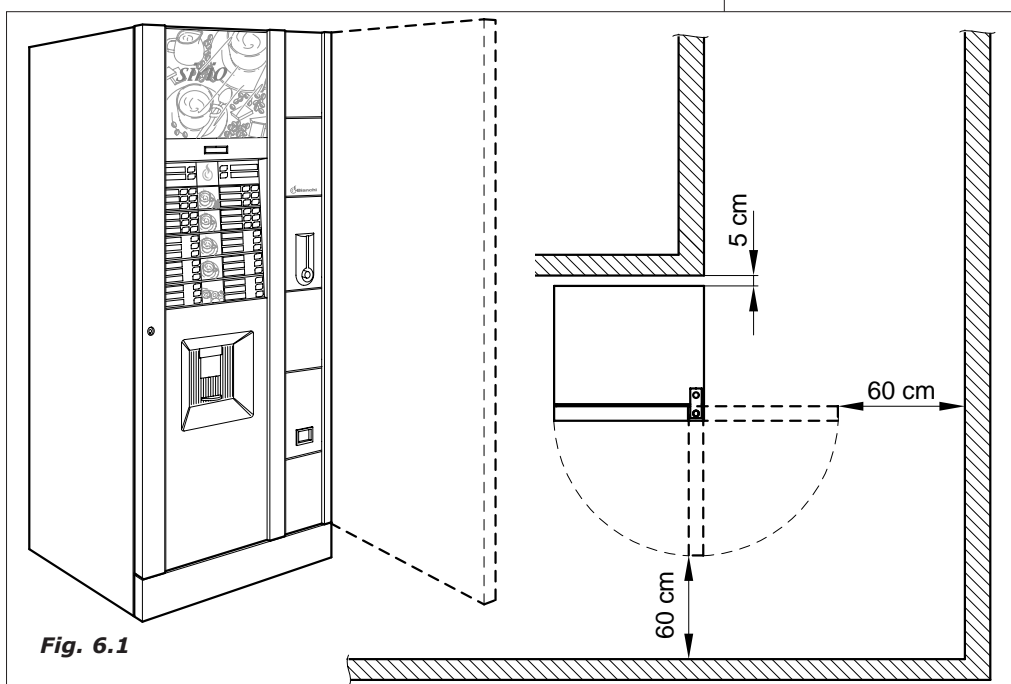

Fig. 6.1
- If positioned near to a wall, there must be a minimum distance from the wall of at least 5 cm. (Fig.6.1) so as to allow a regular ventilation. In no case cover the distributor with cloths or similar.
If the installation is made in safety evacuation corridors make sure that with the distributor door open there is anyhow sufficient space to pass by(Fig.6.1).